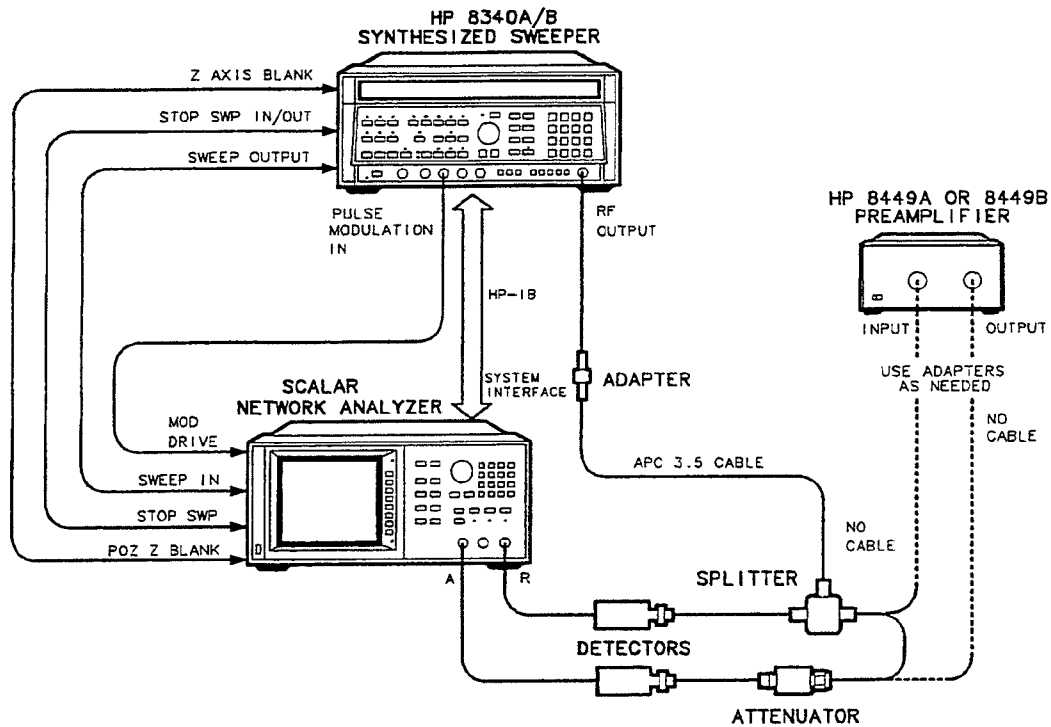

Figure 4-1. Gain and Flatness Test Setup
1. Connect the test equipment as shown by the solid lines in Figure 4-1 (no connections are made to the preamplifier at this time).
5. Connect preamplifier to test equipment as shown by dashed lines in Figure 4-1:
This test measures the gain and flatness of the preamplifier over its frequency range. First, the synthesized sweeper and scalar network analyzer are connected without the preamplifier in the circuit in order to establish a reference level. The preamplifier is then added to the circuit and the gain is compared to the original reference level. The flatness is measured as the change in gain across the frequency range. The test setup is illustrated in Figure 4-1.